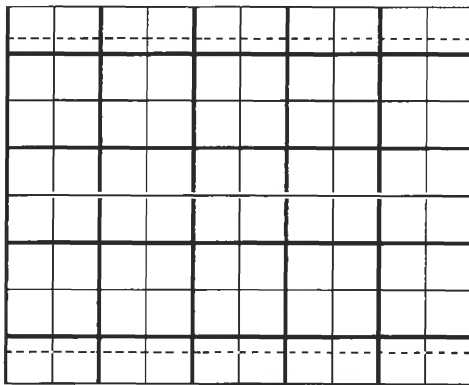

Figure L54-5
- c. Now turn the volume all the way up. Whistle again. Draw this on you the scope face in Figure L54-5.